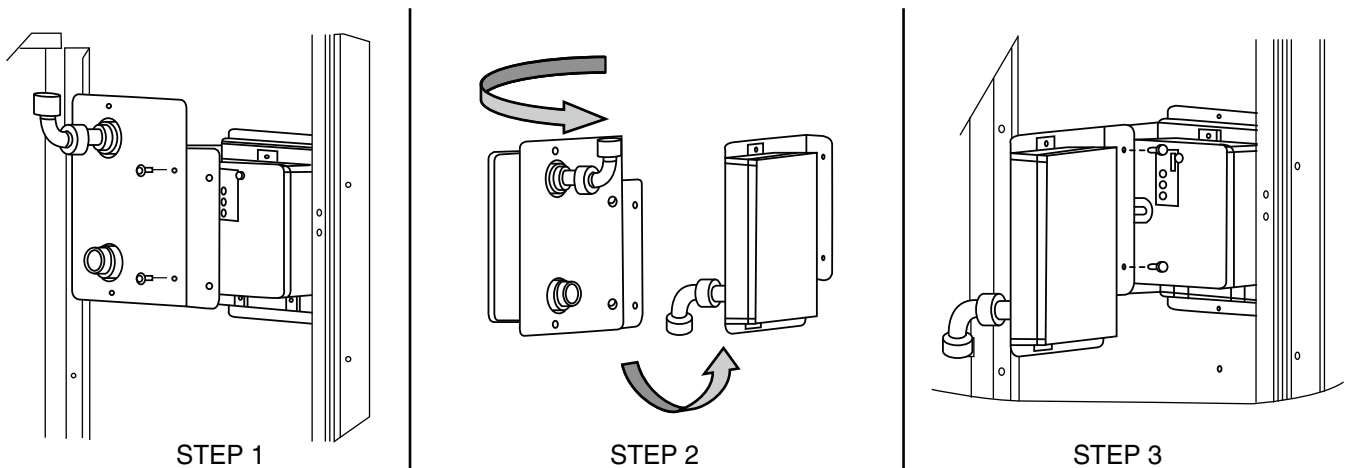

Fig. 66 — Completing Installation of Return Air Smoke Sensor
1. Unscrew the two screws holding the Return Air Smoke Detector assembly. See Fig. 66, Step 1. Save the screws.
2. Turn the assembly 90 degrees and then rotate end to end. Make sure that the elbow fitting is pointing down. See Fig. 66, Step 2.
3. Screw the sensor and detector plate into its operating position using screws from Step 1. See Fig. 66, Step 3.